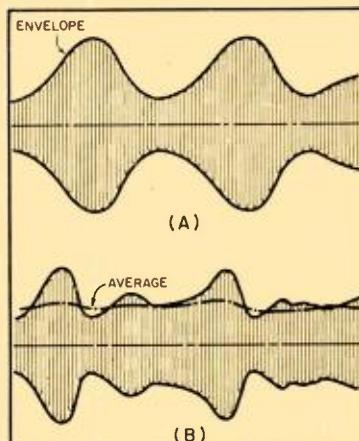

Fig. 1. Comparison between envelope type detector (A) and average-type (B), showing output voltage obtained from each.
The essential principle of linear detection is that in a diode rectifier circuit with a capacitive load, the direct voltage developed across the capacitor is equal to the peak value of the input alternating voltage. There are two distinct types of linear rectifiers: one responds to the envelope of a wave form, as at (A) in Fig. 1, and the other responds to the average of the rectified wave pulses of one polarity, as at (B). Any linear rectifier is a compromise of the two types, but may approach one or the other type as a limit. Since the efficiency of the envelope type is nearly unity, it is preferable to the low efficiency of the averaging rectifier. Only the former will be considered here. For use in a linear rectifier of the envelope type, the ideal diode has zero impedance to current in one direction and zero admittance in the other direction. The interelectrode capacitance of the diode does not affect the linearity of detection, but does affect the carrier frequency current design.